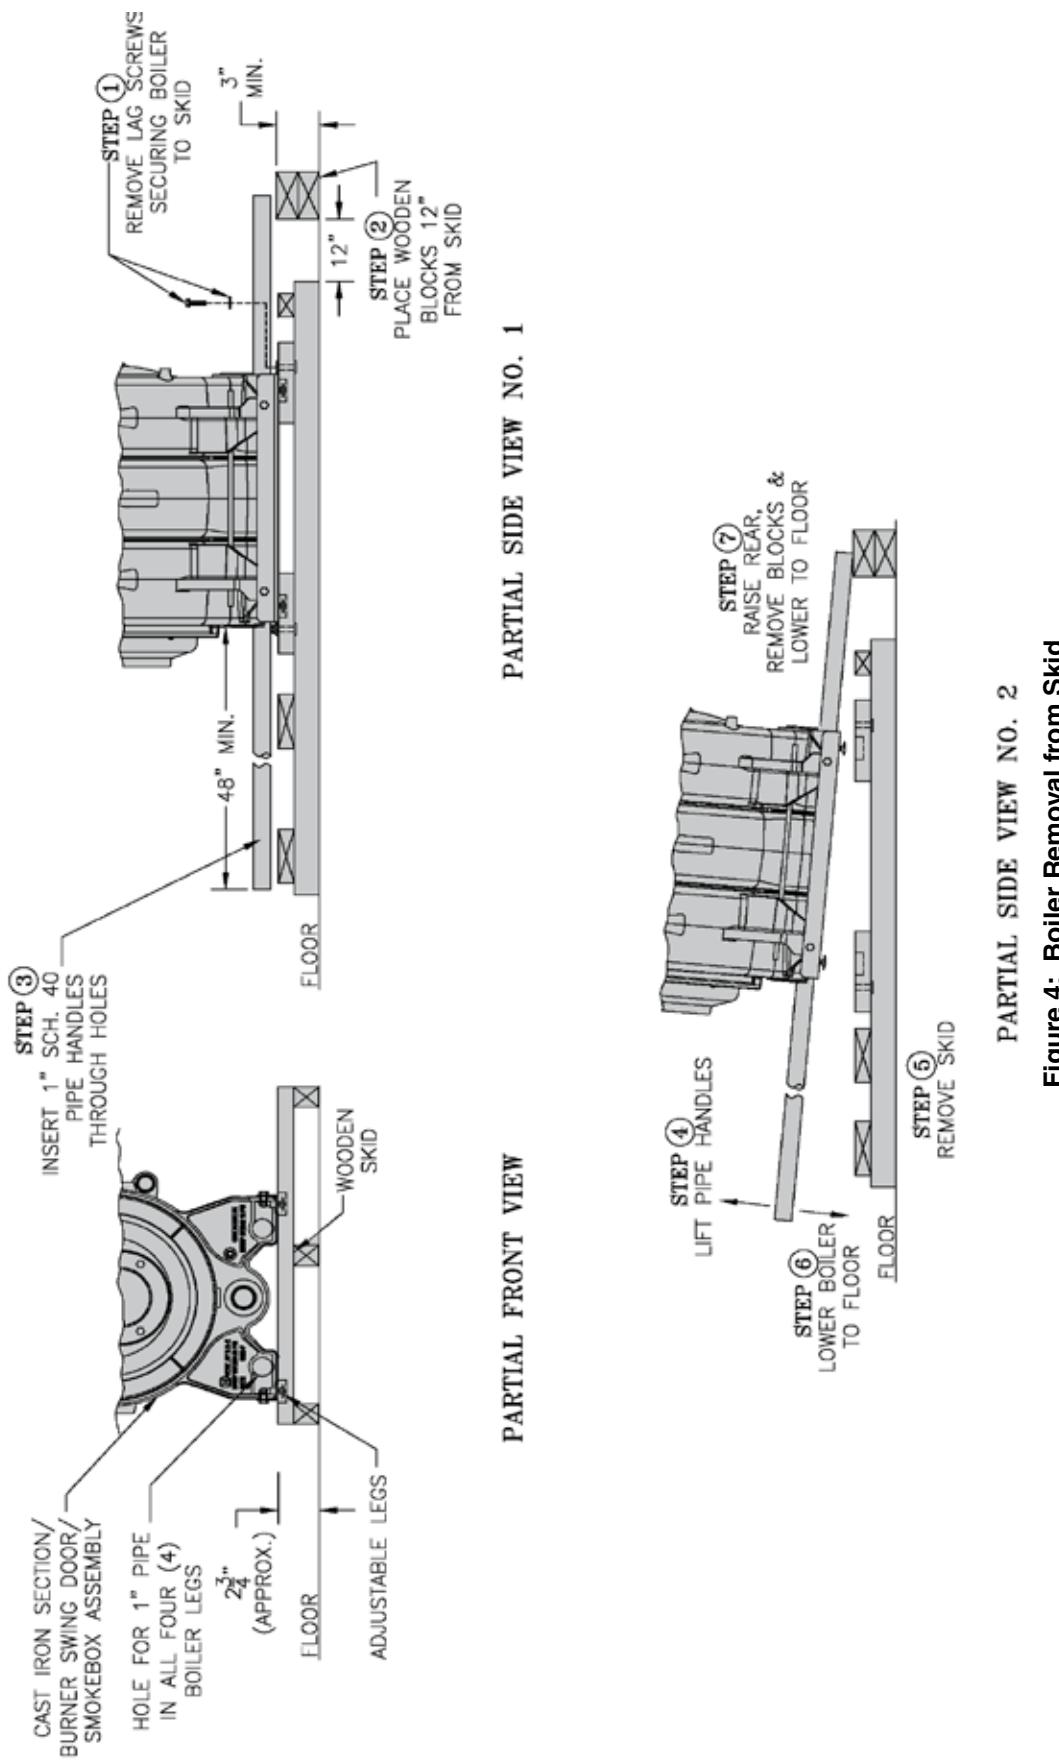

Figure 4: Boiler Removal from Skid
7. Place wooden block(s) 12" from rear of skid as shown. See Figure 4 "Boiler Removal from Skid".
8. Insert 1" Sch. 40 black pipe handles thru leg holes in front and rear section legs. Center rear pipe ends on wooden block(s). See Figure 4.
13. To lower rear of the Cast Iron Section/Burner Swing Door/Smoke Box Assembly tilt boiler slightly forward by pushing on smokebox, or, lift pipes protruding thru rear legs, until wooden block(s) can be removed (see Figure 4). Slowly allow the weight of boiler to tilt backward until rear legs rest on floor.